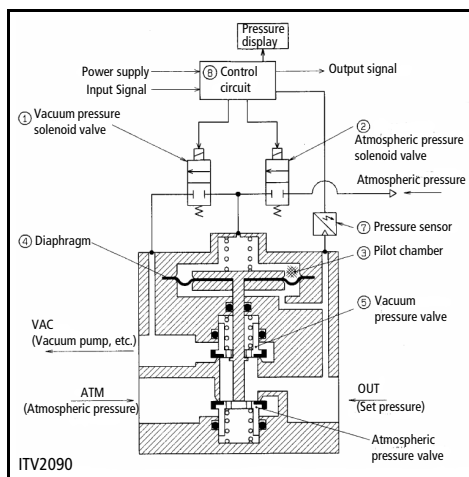

Fig 4
ITV2090 : When the input signal increases, the vacuum solenoid valve ① turns ON (Refer Fig 4), and the atmospheric pressure solenoid valve ② turns OFF. Because of this, the VAC and pilot chamber ③ are connected, the pressure in the pilot chamber ③ becomes negative and acts on the top of the diaphragm. As a result, the vacuum pressure valve ④ which is linked to the diaphragm ④ opens, VAC and OUT are connected, and the set pressure becomes negative. This negative pressure feeds back to the control circuit ⑤ via the pressure sensor ⑦. Then, a correct operation works until a vacuum pressure proportional to the input signal is reached, and a vacuum pressure is obtained which is always proportional to the input signal.